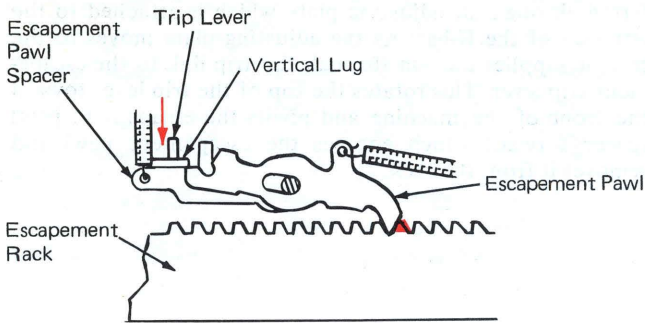

Figure 2 – Escapement Holding (Top View)
1. A vertical lug on the escapement pawl spacer is partially behind the tail of the escapement pawl and carries the tail of the escapement pawl forward (Figure 2).